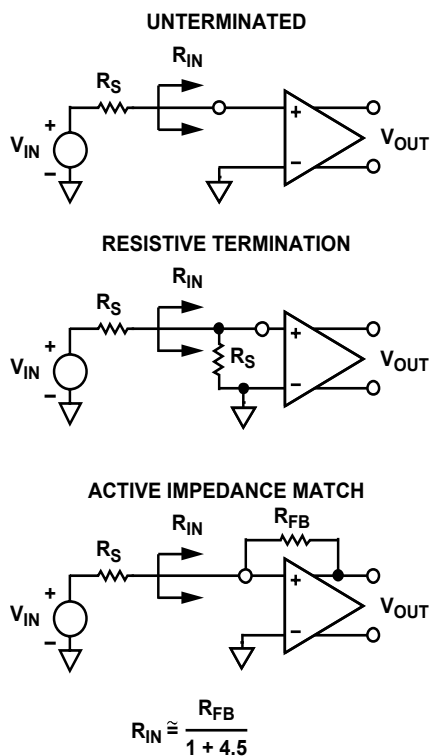
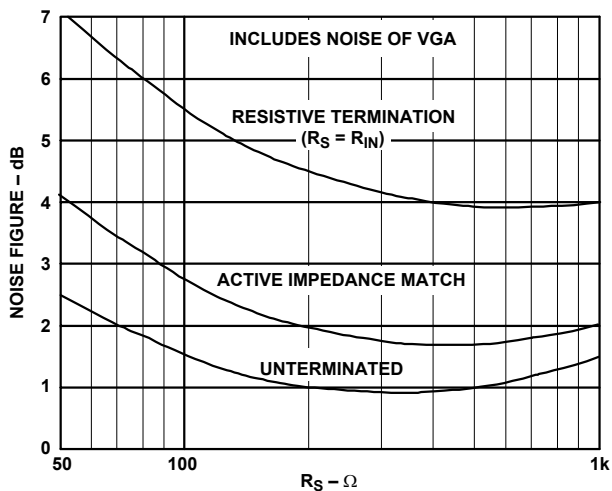
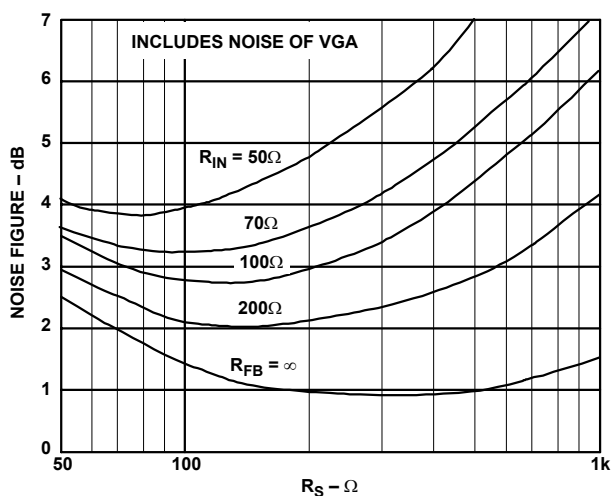

Figure 57. Input Configurations
Figure 58. Noise Figure vs.  $R_S$  for Resistive, Active Matched and Untermated Inputs
Figure 59. Noise Figure vs.  $R_S$  for Various Fixed Values of  $R_{IN}$ , Actively Matched
The input-referred voltage noise of the AD8332 sets an important limit on system performance. The short-circuit input voltage noise of the LNA is  $0.74$  nV/ $\sqrt{\text{Hz}}$  or  $0.82$  nV/ $\sqrt{\text{Hz}}$  (at maximum gain), including the VGA noise. The open-circuit current noise is  $2.5$  pA/ $\sqrt{\text{Hz}}$ . These measurements, taken without a feedback resistor, provide the basis for computing input noise and noise figure performance in a variety of different configurations. A separate Application Note describes these in more detail, but a summary is given in Figure 57, Figure 58, and Figure 59. Unterminated ( $R_{FB} = \infty$ ) operation exhibits the lowest equivalent input noise and noise figure. Noise figure versus source resistance plots are shown in Figure 58, rising at low  $R_S$ , where the LNA voltage noise is large compared to the source noise, and again at high  $R_S$  due to current noise. The VGA's input-referred voltage noise of  $2.7$  nV/ $\sqrt{\text{Hz}}$  is included in all of the curves.
The primary purpose of input impedance matching is to improve the system transient response. With resistive termination, the input noise increases due to the thermal noise of the matching resistor and the increased contribution of the LNA's input voltage noise generator. With active impedance matching, however, the contributions of both are smaller than they would be for resistive termination by a factor of  $1/(1 + LNA\ Gain)$ . Figure 58 shows their relative noise figure (NF) performance. In this graph, the input impedance has been swept with  $R_S$  to preserve the match at each point. The noise figures for a source impedance of  $50\ \Omega$  are 7.1 dB, 4.1 dB, and 2.5 dB, respectively, for the resistive, active, and unterminated configurations. The noise figures for  $200\ \Omega$  are 4.6 dB, 2.0 dB, and 1.0 dB, respectively.
Figure 59 is a plot of the NF versus  $R_S$  for various values of  $R_{IN}$ , which is helpful for design purposes. The plateau in the NF for actively matched inputs mitigates source impedance variations. For comparison purposes, a preamp with a gain of 19 dB and noise spectral density of a  $1.0\ nV/\sqrt{Hz}$ , combined with a VGA with  $3.75\ nV/\sqrt{Hz}$ , would yield a noise figure degradation of approximately 1.5 dB (for most input impedances), significantly worse than the AD8332 performance.